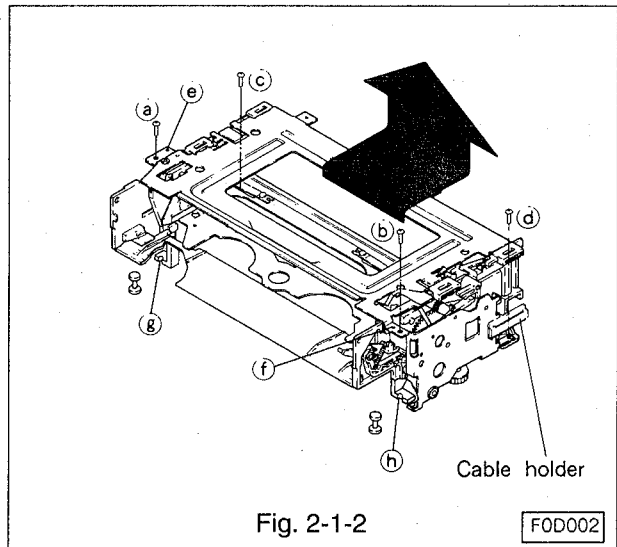

Fig. 2-1-2
- Unscrew four cassette housing fastening screws (a~d). Raise the cassette housing slowly in the direction shown by the arrow.(Refer to Fig. 2-1-2.)
- Fasten the housing to the deck with the four screws (a~d).(Refer to Fig. 2-1-2.)